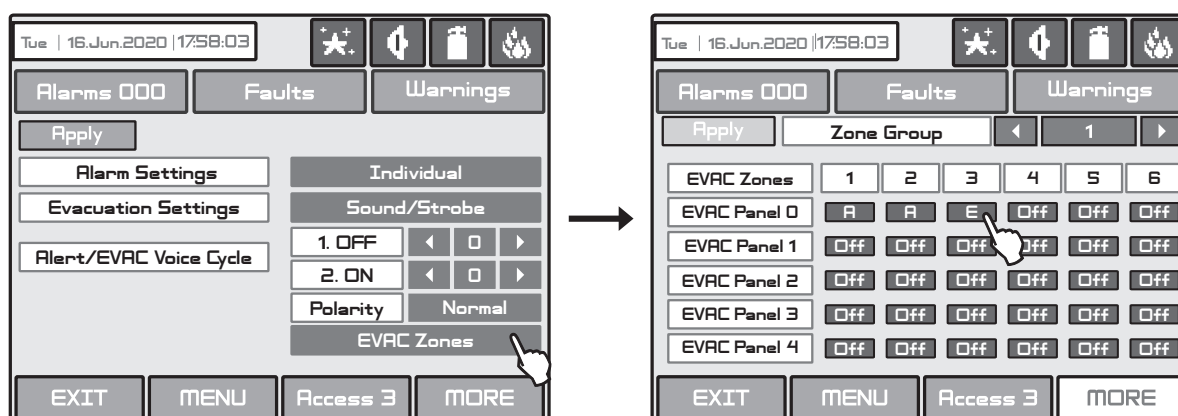

Fig. Screen 30B - Setting the operation of connected Evacuation Voice Panels (PASO).
When to the IRIS panel is connected one or several (up to 5) Evacuation Voice Panels (PASO), their operation must be set in a separate menu accessible after pressing the EVAC Zones button - see Fig. Screen 30B. The hardware connection of PASO panels to IRIS is described in item 2.9.
For example (Fig. Screen 30B): 1 PASO Panel is connected to IRIS panel. The settings for the PASO Panel must be introduced into “EVAC Panel 0” section. The settings are concerning all zone numbers associated to Zone Group 1. In case of fire alarm event in the system (IRIS panel), the connected PASO panel will start emitting Alert messages in EVAC Zones 1 and 2 (A option is set), a an Evacuation message in EVAC Zone 3 (E option is set). EVAC Zones 4-6 are not used (OFF option is set).